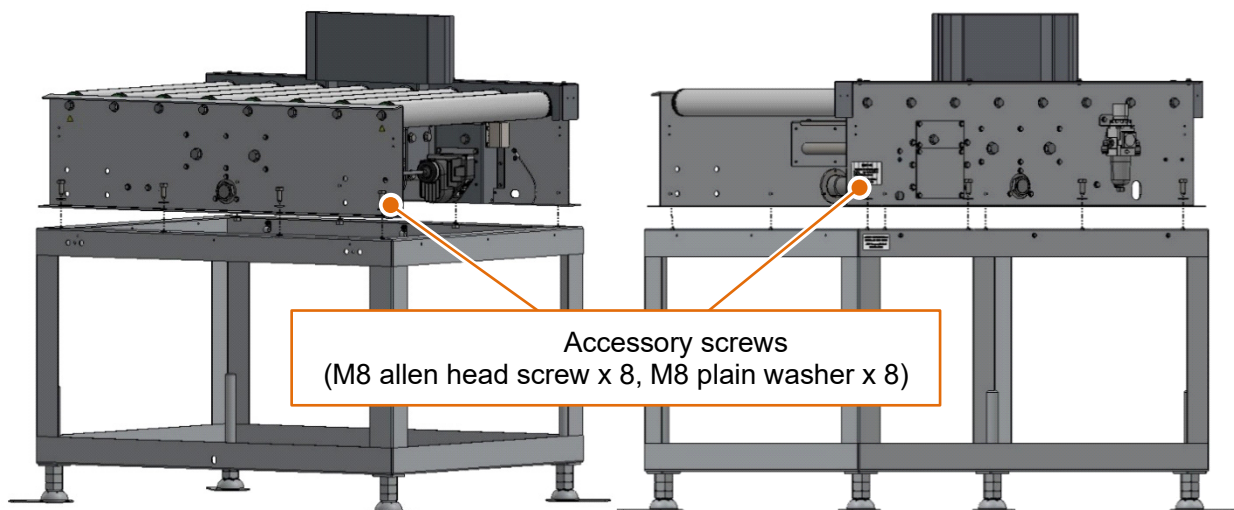

Fig 9 Attaching onto the AD-4983-B5080
1. Confirm the direction of base frame and pusher type rejector, mount pusher type rejector onto the base frame and fix them with 13 mm wrench like fig 9.